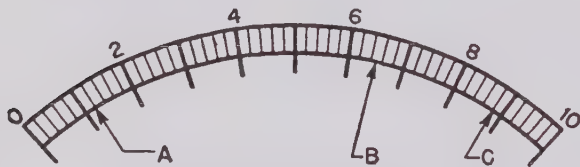

Figure 12. Linear scale used in moving-coil meters for d-c measurements.
- (2) When a meter is inserted in a circuit, an interesting point sometimes arises in connection with the meter accuracy. *Inaccurate readings result because circuit operation has been changed and not because the meter is registering incorrectly.*
d. **SCALE.** Most moving-coil meters used for d-c measurements have a linear scale with equal spaces between numbers, similar to the one shown in figure 12. The amount of deflection is directly proportional to the amount of current through the coil, and when the rated current flows through the meter the pointer deflection is full scale. When half the rated current flows through the coil, the pointer deflection is half-scale, and so on. For example, point A on the scale corresponds to a reading of 1.2, point B reads 6.5, and point C, 8.8. Nonlinear scales are discussed later in this text.